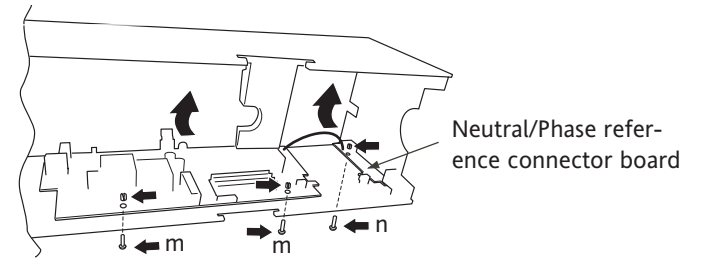

Figure 3.6c Remove power board (250A/400A units)
6. With the housing free from the chassis, the power board can be removed by releasing the plastic rivets ('m' in figure 3.6c) securing it to the housing, and for 250A and 400A modules, the plastic rivet ('n') securing the Neutral/Phase reference connector board.